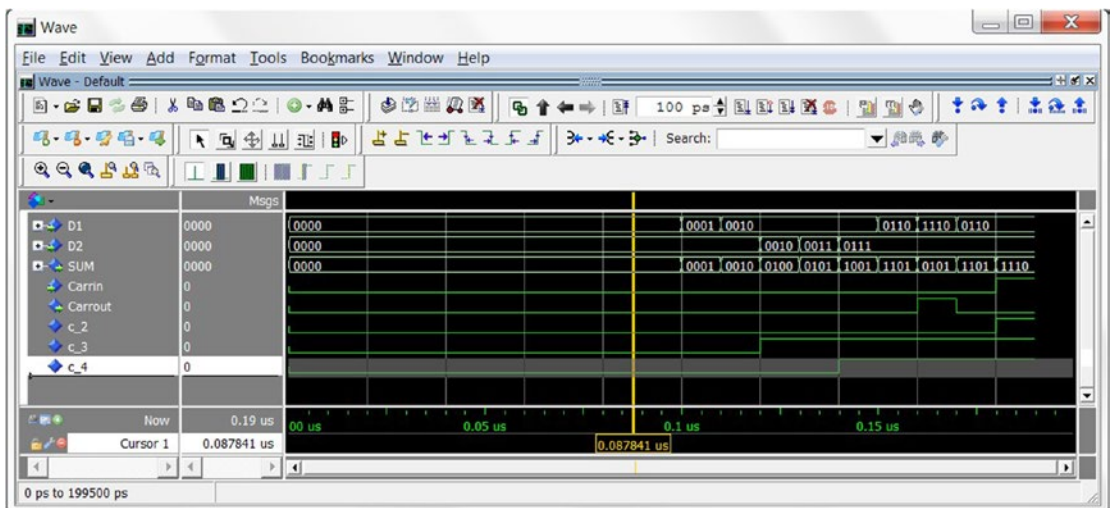
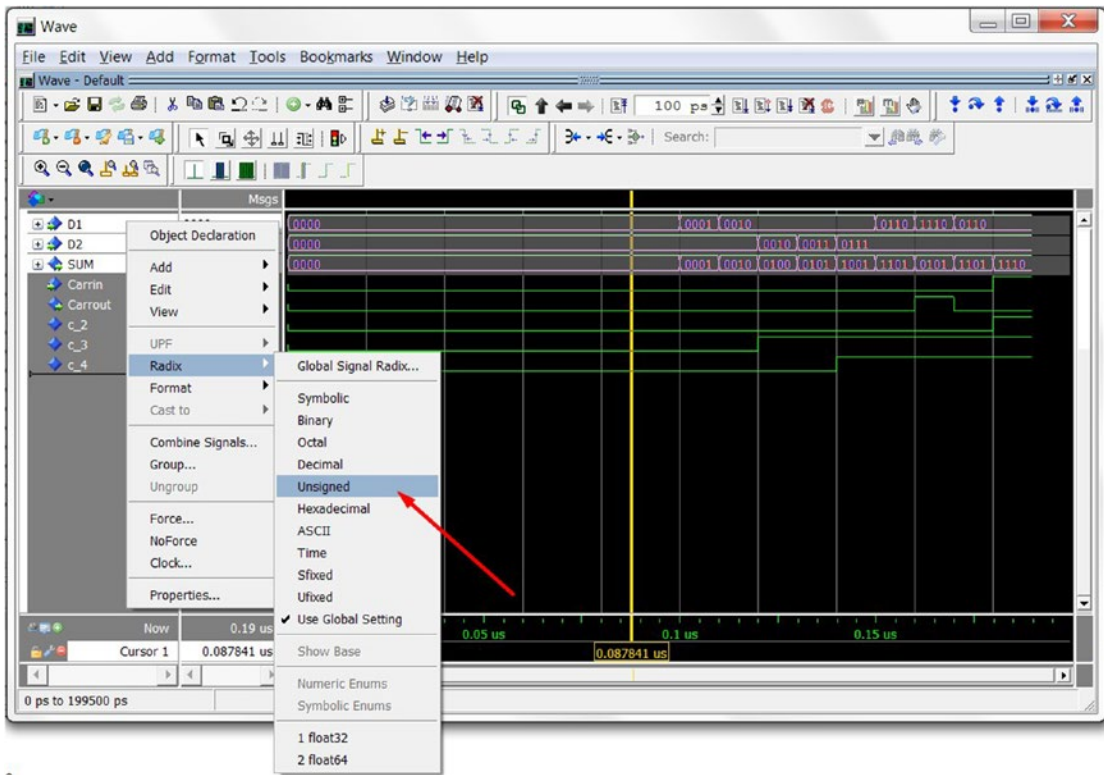

Figure 8-23. 4-bit adder simulation result
Figure 8-24. How to change the data radix in simulation
- Wave windows will show all the calculation results from the four-bit adder (Figure 8-23). All the input and output are in binary number (Figure 8-24). Select D1, D2, and Sum with Ctrl key and then right-click it to select unsigned (Figure 8-25).